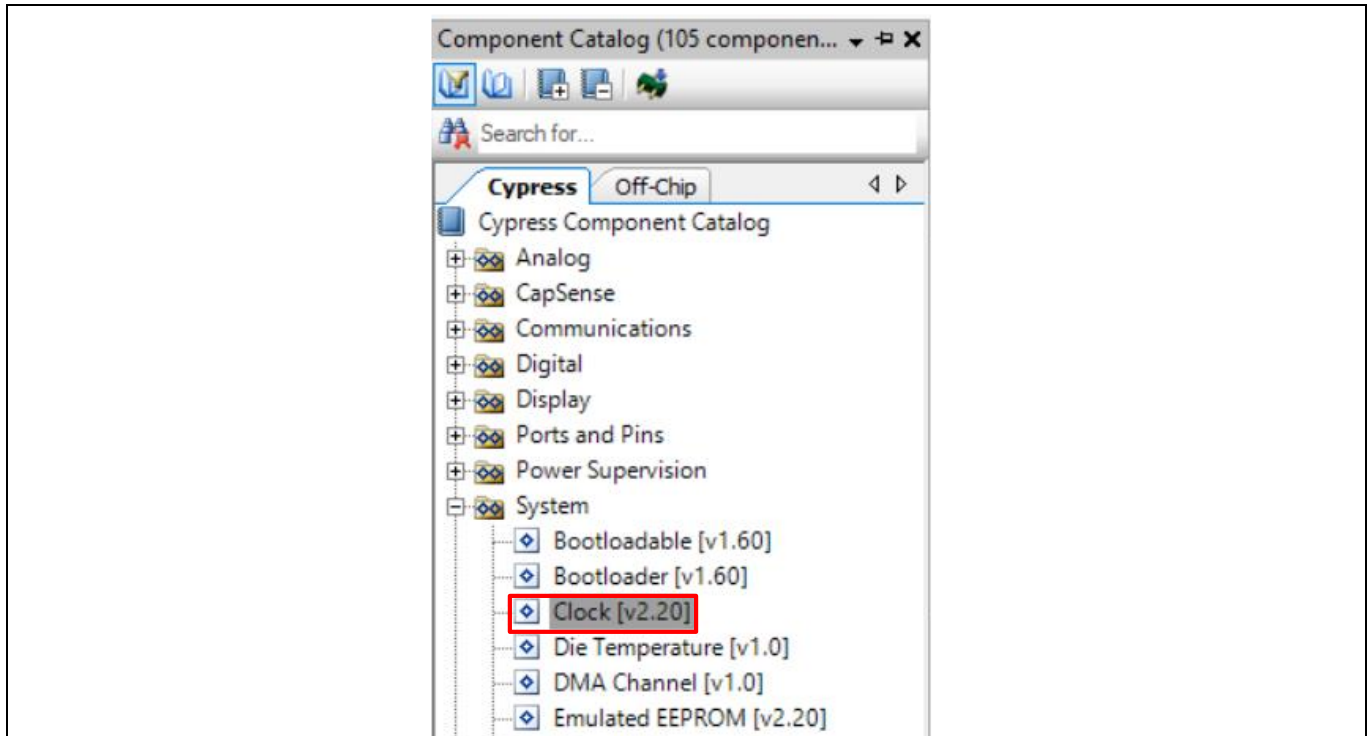
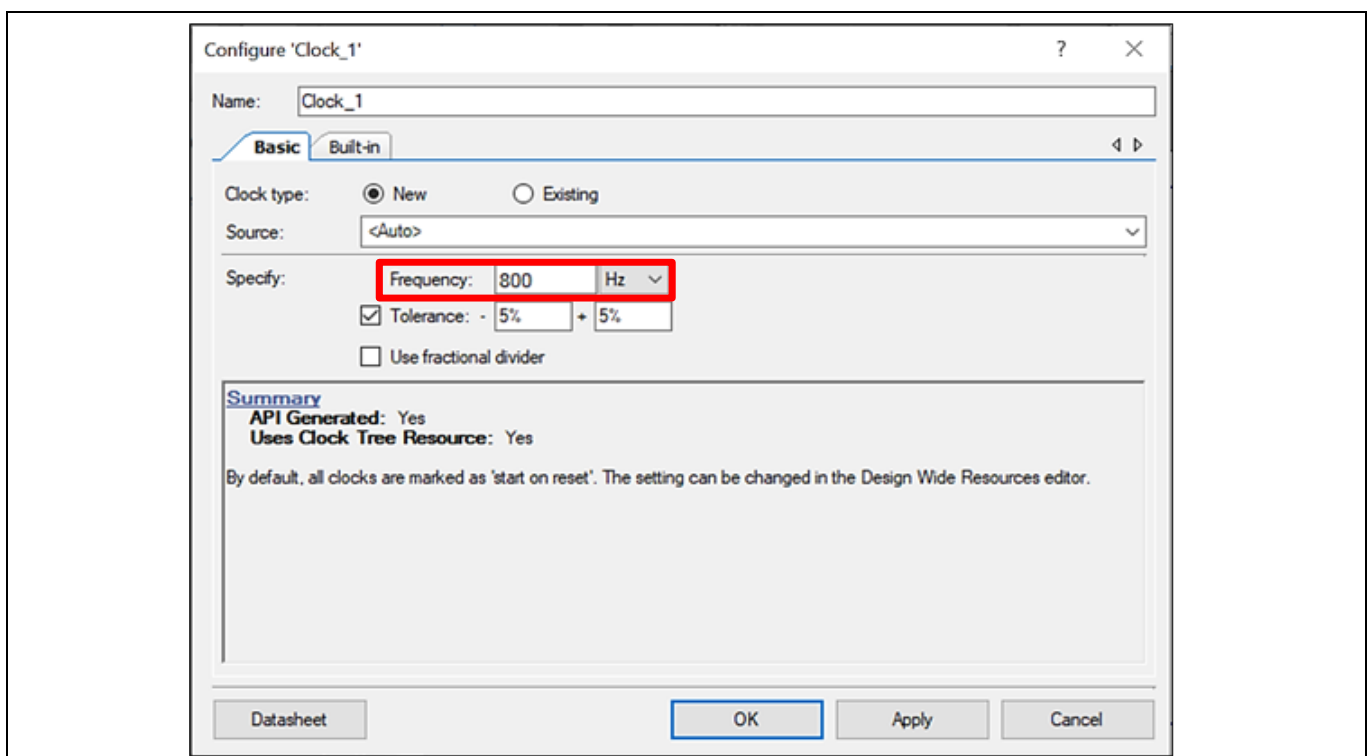

Figure 40 Location of the clock Component
Figure 41 Configuring the clock Component
- A PWM Component requires an input clock for its operation. Drag and drop a **Clock** Component onto the schematic, and configure the **Frequency** to 800 Hz by double-clicking on the Component, as shown **Figure 40** and **Figure 41**. Since the Prescaler value set in PWM Component is 8, the effective input clock of the PWM is only 100 Hz. Therefore, the PWM period of 254 results in a PWM output time period of 2.54 seconds.